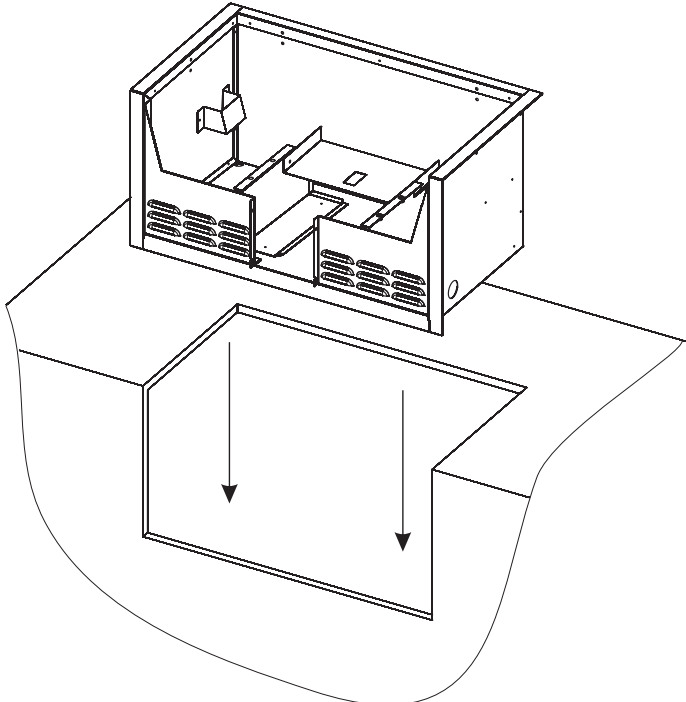

Figure 1
1. Remove the surround from the shipping box and place the BHA surround into position in the constructed enclosure. See Figure 1.